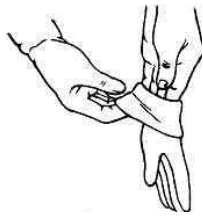

Figure 1
**Before handling the Reflecting Screen (H), put on the supplied pair of White Gloves (shared with the Laser Cinema, see the Laser Cinema cleaning kit) to avoid leaving fingerprint marks, dust or oil from your hands on the surface of the material (Figure 1). The Reflecting Screen (H) is very delicate and should be handled with extreme care. Do not allow the material to fold or bend. Failure to follow instructions will result in permanent damage to the screen material, which is not covered by warranty.**
1. Remove the **Reflecting Screen (H)** from the packaging tube and set it gently on a clean surface.